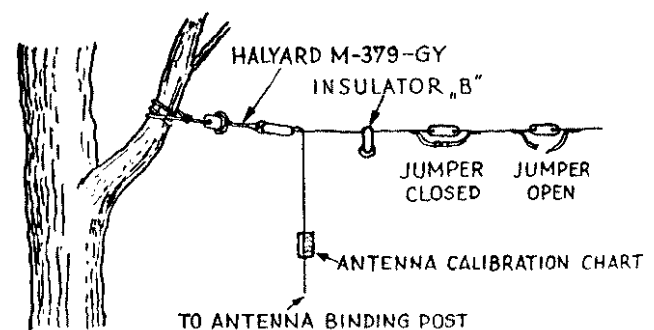

Figure 31. Antenna supports and connections.
c. Connect Antenna AT-101/GRC-9-GY to its support by means of Halyard M-379-GY, as shown in figure 31. This length of antenna is shown with the calibration chart attached.